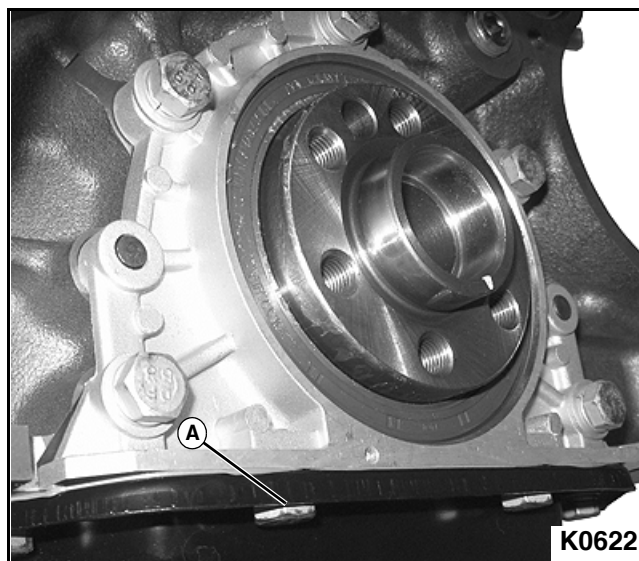

Figure 3-102
2. Remove 16 oil pan mounting bolts, flat washers, and lock washers (A) from oil pan. **See Figure 3-102.**